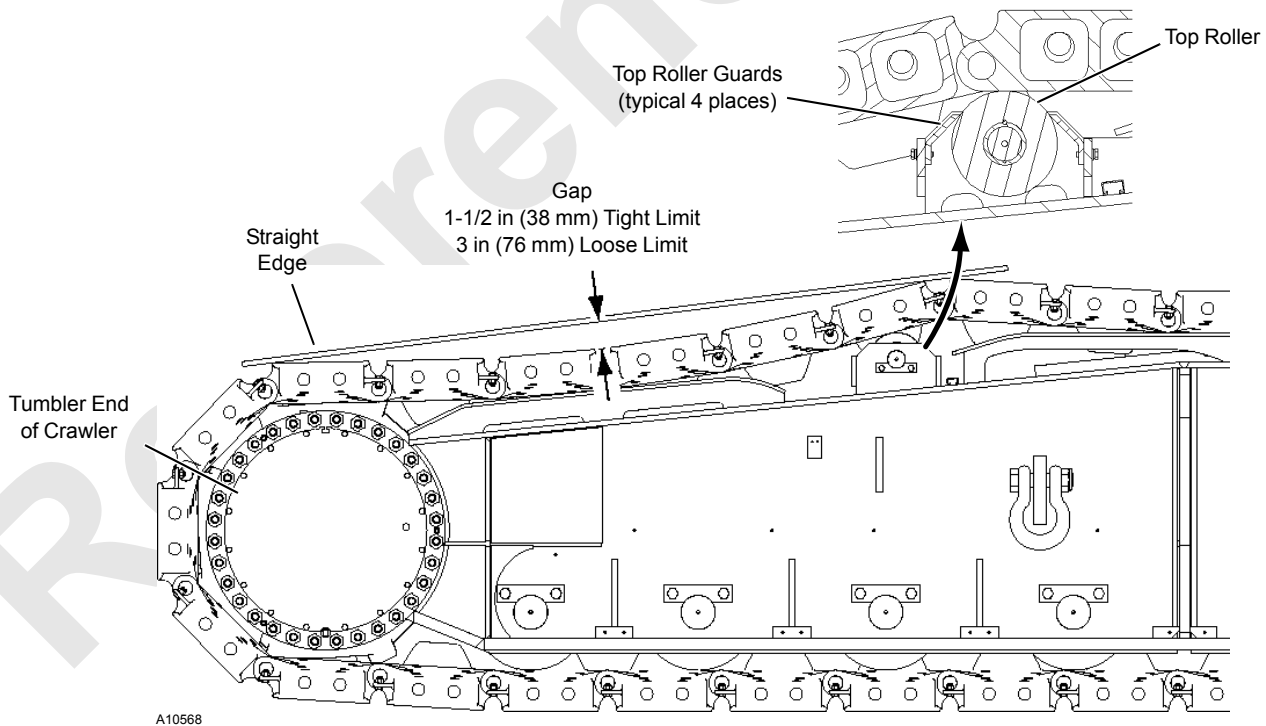

FIGURE 8-2
- Adjust top roller guards close to top rollers without touching rollers, as shown in Figure 8-2.
1. Travel forward or reverse on a firm level surface so all tread slack is in top of treads at tumbler end of crawlers as shown in Figure 8-2.
2. Place straight edge on tread as shown in Figure 8-2. Gap between straight edge and top of tread at lowest point should be 1-1/2 in (38 mm) at tight limit to 3 in (76 mm) at loose limit.